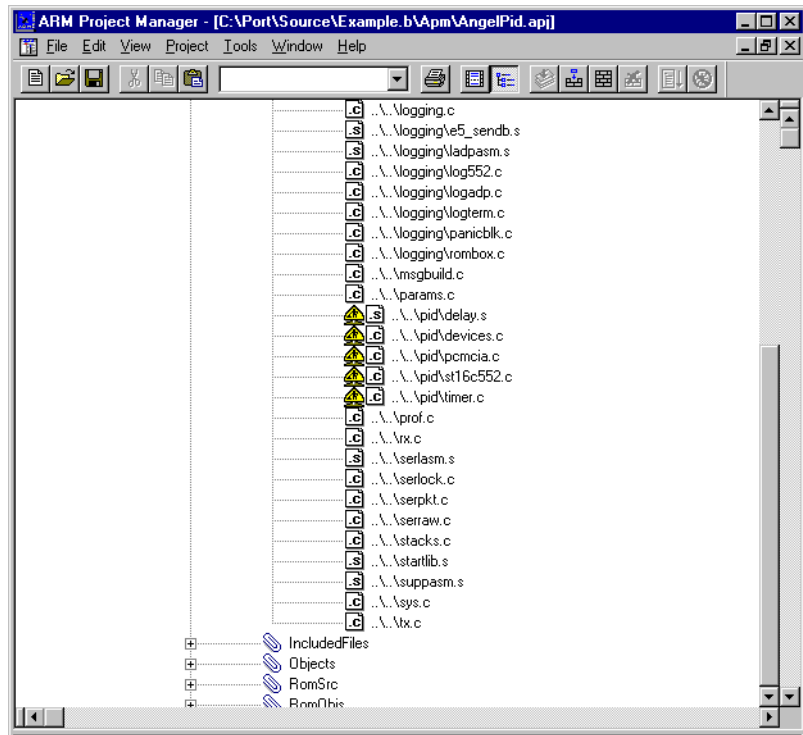

Figure 13-11 Replacing target-specific source files
13. Remove and re-add all target-specific source files to the project. These are the files that are located in the renamed pid directory, such as `devices.c` and `make lo.c` (see Figure 13-11 on page 13-54). In general you will have to replace these files with your own code when porting Angel.